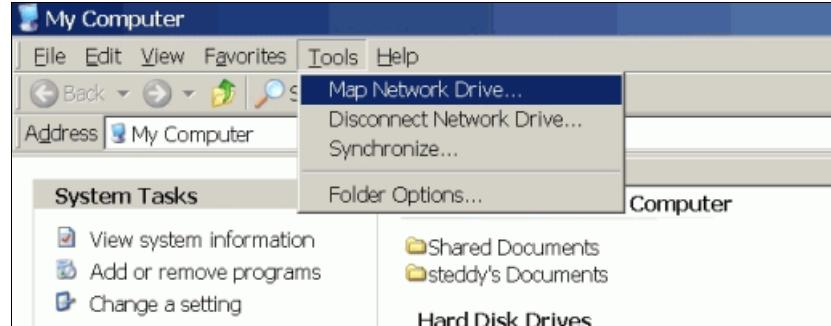

Figure A-1 Map Network Drive
- a. Click **Tools** → **Map Network Drive** (Figure A-1).